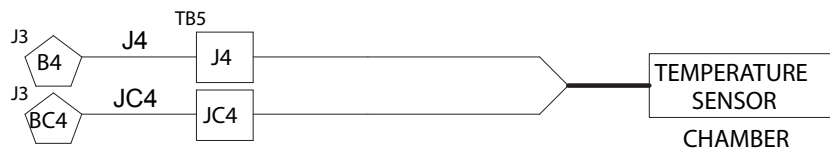

Figure 15
- c. Wire new chamber temperature sensor to terminal blocks J4 and JC4 on new control panel assembly 3 pole sensor terminals (Figure 15)